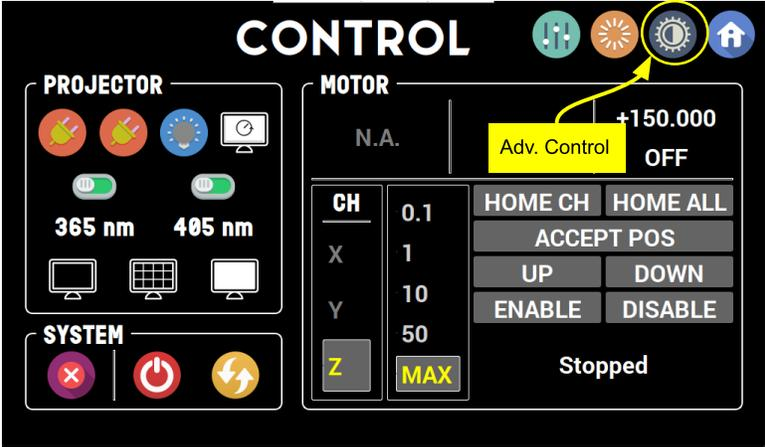

Fig. 13. How to go into Advanced control page
- Go into the **Advanced control page** (Fig. 13)